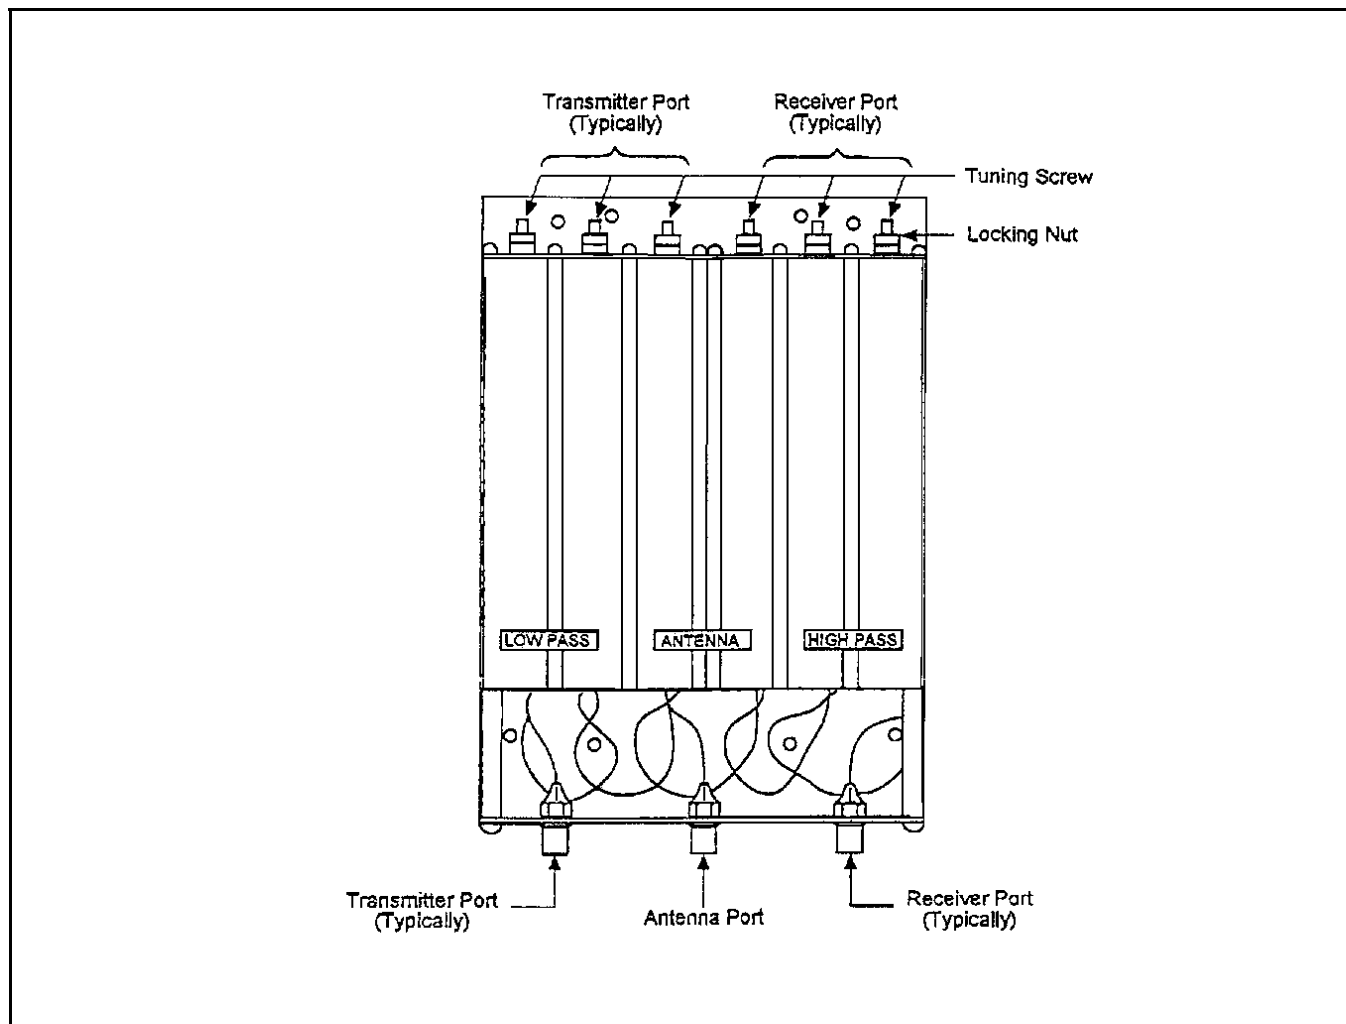

Figure 13 - Duplexer Connections and Tuning Adjustments
2. Remove the eight (8) black Phillips head screws that fasten the cover wrap to the chassis and slide the cover wrap off towards the rest of the unit.
6. Unloosen the tuning screw shaft locking nuts (Figure 13) on all six. (6) tuning screws.